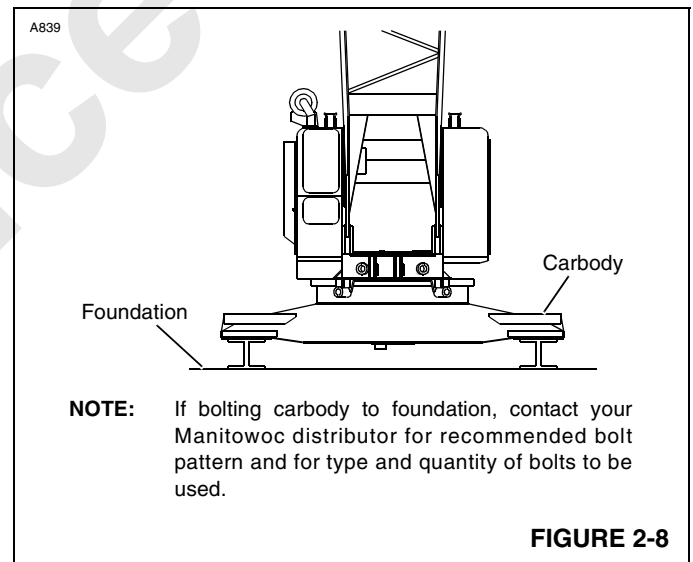

FIGURE 2-8
2. Crane rotating bed mounted on carbody (crawlers removed) which is securely fastened to the foundation (Figure 2-8).